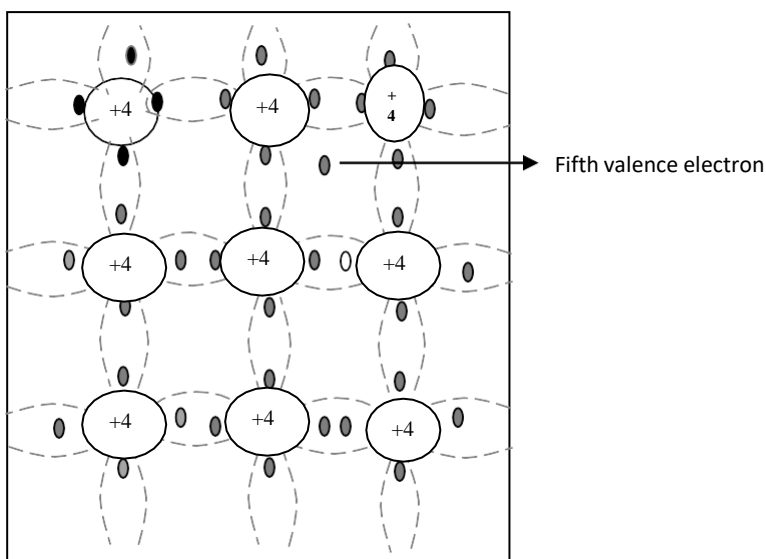

Fig. 1.2a Crystal structure of N type Semiconductor
- A pentavalent impurity has five valance electrons. Fig 1.2a shows the crystal structure of N-type semiconductor material where four out of five valance electrons of the impurity atom(antimony) forms covalent bond with the four intrinsic semiconductor atoms.